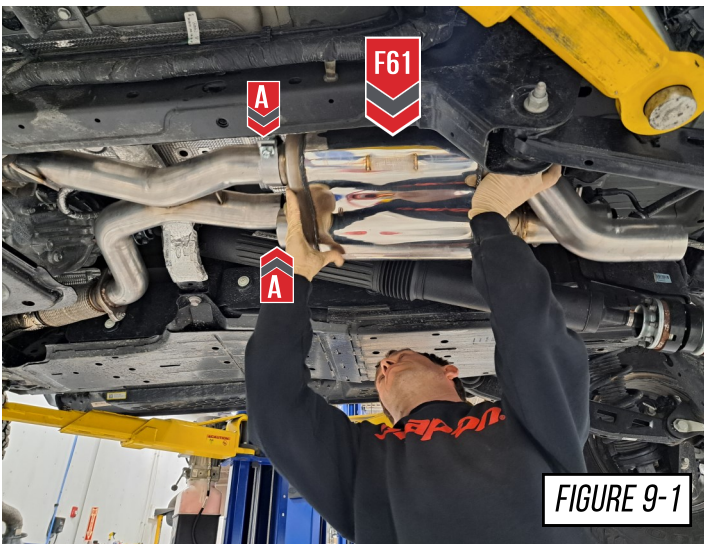

FIGURE 9-1
Gather 2 exhaust clamps, place them on the inlet side (A), and install the muffler section (F61), as shown in **Figure 9-1**.